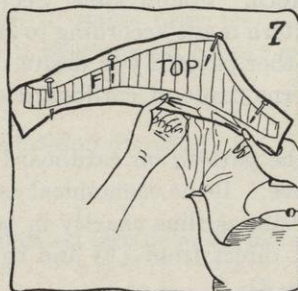

FIG. 7.
- (2) On the other hand, sometimes the larger edge of the flange is large enough, but the felt or straw is too tight at the headsize. In this case pin at the edge, steam again, and stretch at headsize (see Figure 7).